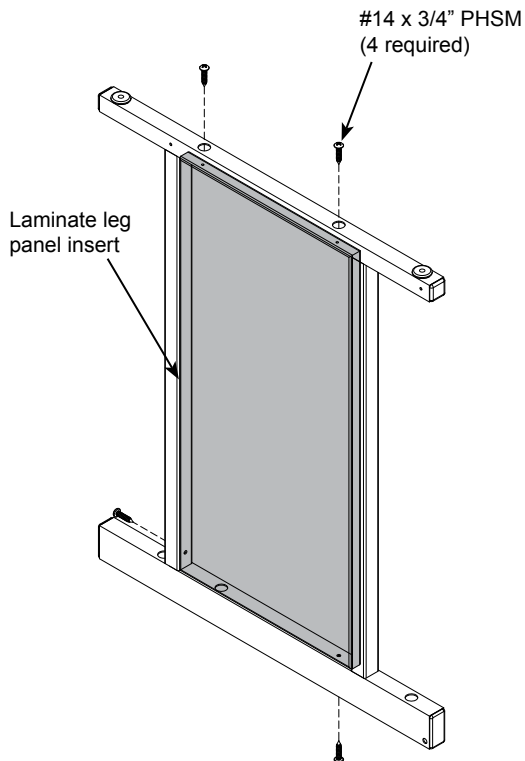

Figure 2
1. If you ordered optional laminate leg insert panels, install them into the legs at this point with (4) #14 x 3/4" PHSM screws. **Figure 2.** If you don't have laminate leg panels-skip to step 3.